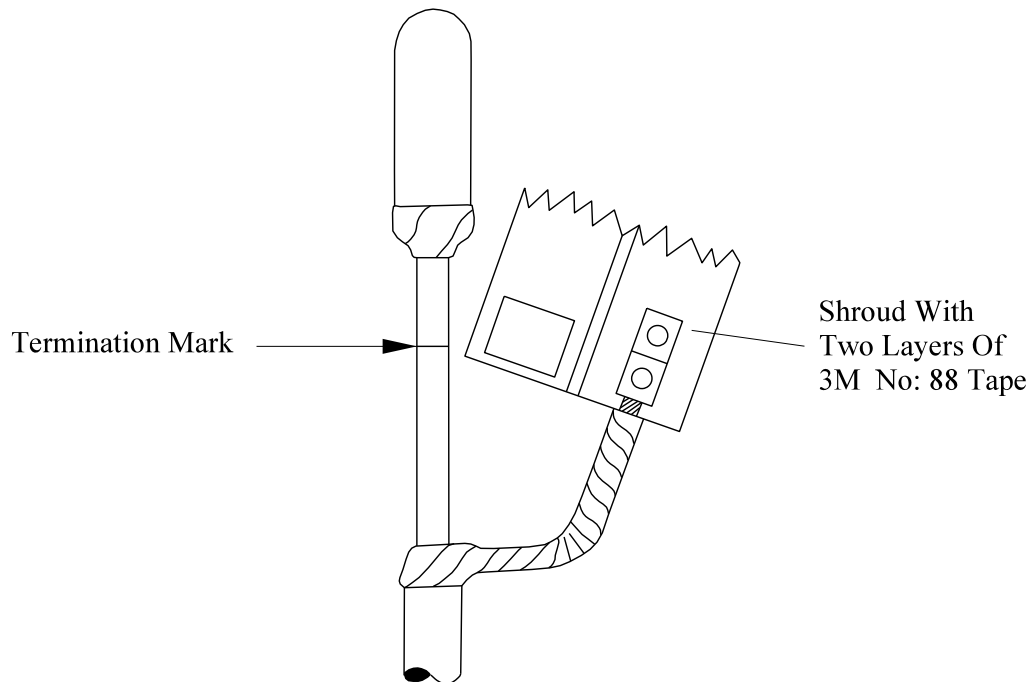

Fig 11
- 10.8. Cut the phase conductor at the marked position and remove 10mm of insulation. Laying the cut-out to one side insert the phase conductor and connect to the cut-out, replace the flash-guard - Fig 11.